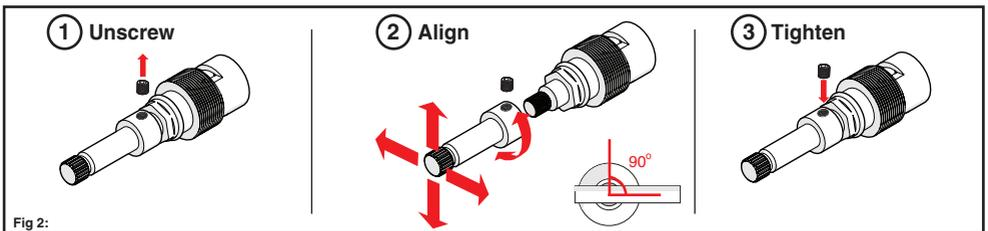

Fig 2:
*Fig 2: To align the handle loosen grub screw/s (2) from the extension (1) using 2mm allen key, then rotate the position of the extension (1) and ceramic disc cartridge (7) until the desired handle position is achieved.
5. Once aligned ensure the extension (1) is pushed firmly on to the ceramic disc (7) and tighten grub screw/s (2) firmly using the 2 mm allen key. Take care whilst doing this.
6. Place the fibre washer (4) over the ceramic disc assembly (7A) and onto the face or the (A) wall breach or (B) basin body.
7. Tighten the locking nut (3) over the ceramic disc assembly (7A) and tighten firmly using a 25mm deep tube socket. *For some product ranges such as Tudor hob, please use 24mm socket